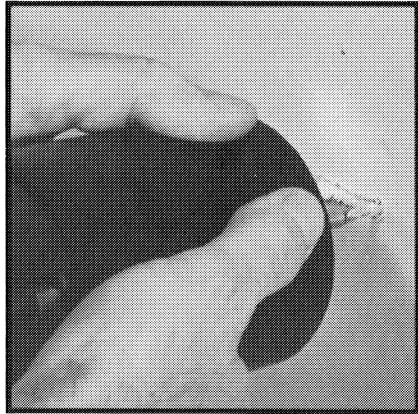

Fig. 4
5. Hold the Drywall Cutout Unit firmly with both hands and push the bit until the pilot is through the wall covering at the mark made in step 3 (See Fig. 4). Move the Drywall Cutout Unit to the right until you feel the bit contact the inside of the electrical box.